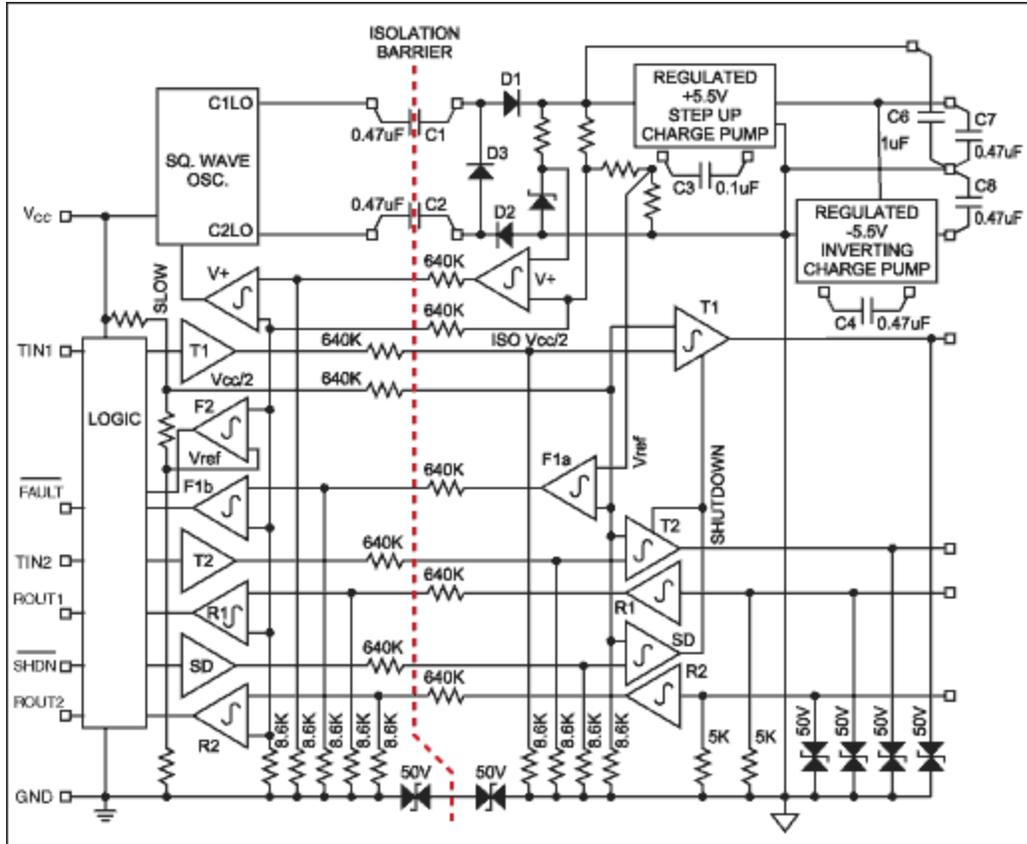
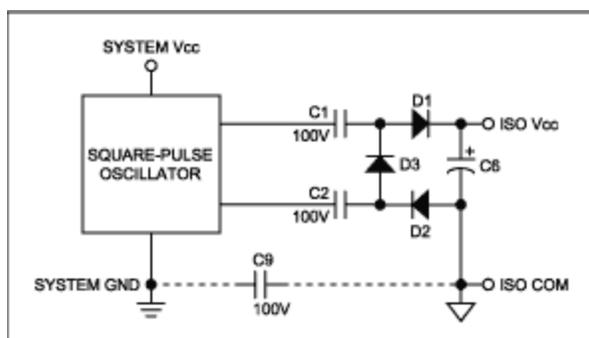
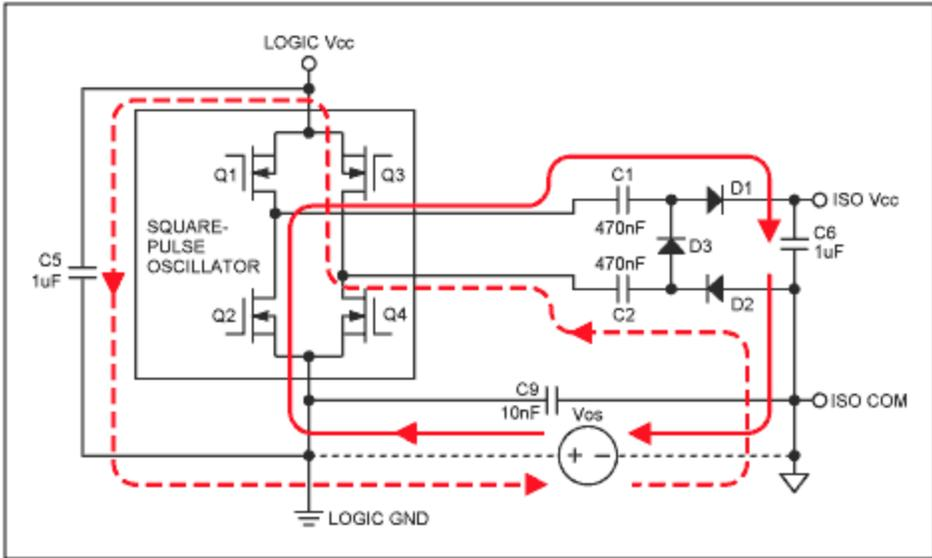

Figure 1. MAX3250 functional block diagram.
Figure 4. Capacitor-coupled isolated supply.
Figure 7. Equivalent charge transfer circuit showing possible reverse pumping paths for  $V_{OS}$ .
The MAX3250 provides a  $\pm 50V$  isolated data interface while, in the same IC package, providing isolated power for the line-side transceiver circuits from a single +3 to +5.5V system power source. The detailed functional diagram in **Figure 1** allows a clear visualization of the isolation, power-transfer, and protection circuits. External filter, charge-pump, and power-transfer capacitors are utilized.
Note that there is a resistance between ISO COM and system GND (see Figure 1) due to the existence of nine sets of isolation resistors. The approximate parallel resistance of these nine attenuators is 72k $\Omega$ .
must be transmitted from the system or non-isolated side to the line or isolated-side circuits without destroying the required isolation. It is a practical matter to use capacitive voltage transfer across the isolation barrier when the planned isolation is no more than 50-100V. Higher voltages can be isolated; but the required capacitors become somewhat large at, say, 500V. Capacitive power transfer can be accomplished by differentially driving a pair of capacitors from a square-wave oscillator on the system side as indicated in **Figure 4**. The external capacitors feed three diodes and a filter capacitor on the isolated side to produce an isolated DC output. The third diode is present to allow recharging/discharging of the coupling capacitors on alternate half-cycles of the oscillator signal. The coupling-capacitor voltage ratings are selected to be greater than the required line-side isolation or offset voltage.
The isolated-supply power-transfer system operates somewhat like the well-known charge pump. The square-wave oscillator reverses its output polarity (0 or +5V) on alternate half cycles of operation. Its output is always a square wave (50% duty cycle), but (in the MAX3250) its output resistance increases on command (via a return feedback path visible in Figure 1) when ISO VCC reaches its design voltage. Thus, it operates to provide either normal or reduced power transfer to the isolated supply. As the line-side load draws down the voltage on C6, the feed-back signal will again cause the oscillator to more effectively replenish the charge on C6. The output voltage is thus under active regulation, with some ripple on the output at a ripple frequency depending upon the actual load. A Zener diode on the output side acts as a voltage reference against which a fraction of the output is compared to drive the control signal that is sent back across the isolation barrier to the oscillator. The charge pump injects noise currents into the ISO COM terminal to create a noise voltage on ISO COM whenever ISO COM is not connected to system GND. Hence, ISO COM should be bypassed to system GND with a 10nF capacitor (C9 in Figure 4). There are two additional regulating charge pumps driven by ISO VCC to create regulated  $\pm 5.5V$  supplies for the RS-232 drivers and receivers.
## Control and Data Transfer Across the Isolation Barrier (refer to Figure 1)
1. The charge-pump isolation-voltage limit is set by the breakdown rating of capacitors C1, C2, and C9 (see Figure 4).
The maximum applied offset voltage is dependent on frequency and the value of the power coupling capacitors (C1 and C2 in Figures 1 and 4). The dependence on C1 and C2 is due to a reverse pumping action caused by high levels of ground offset voltage. This means that there are different limits to  $V_{OS}$  when the circuit is powered by 3.3V or 5V supplies because C1 and C2 must be 470nF for 3.3V supply whereas 47nF is allowed for a 5V supply.
The isolated supply of Figure 4 is redrawn in **Figure 7** to include details of the square-pulse oscillator. Reverse charging paths are shown for  $V_{OS}$ -generated currents. When the  $V_{OS}$  polarity is as shown, a current, indicated by the solid line, will flow through Q2, C1, and D1 to charge C6. When the polarity is reversed, a current, indicated by the dashed line, will flow through D2, C2, and Q3 to charge logic-bypass capacitor C5.
A feature of the MAX3250 is a fault-condition flag output indicating when the device's isolation limit has been exceeded. The operation may be understood by reviewing the block schematic of Figure 1. Comparators on each side of the isolation barrier, F1a and F2, each compare a locally-generated reference voltage with the attenuated  $V_{CC}/2$  reference from the opposite side of the isolation barrier. References are chosen such that the attenuated equivalent of a 55V isolation voltage is recognized. One comparator recognizes a positive offset, and the other recognizes a negative offset. Outputs from the two comparators are logic ORed together to produce a fault signal whenever the difference between the logic common (GND) and ISO COM terminals exceeds  $\pm 55V$ .